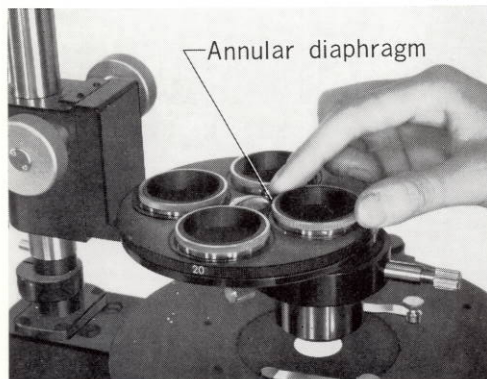

Fig. 19
- When using the phase-contrast turret, attach the annular diaphragms following the magnification figures engraved on the milled edge of the turret. (Fig. 19)